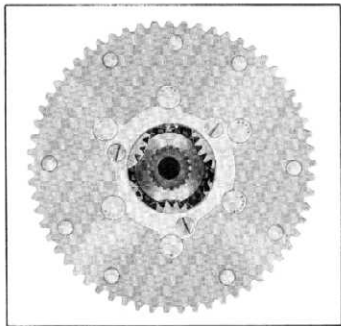

Fig. 112—Mark Each Pinion Shaft
2. Using prick punches or other similar means, mark each pinion shaft and also the planet carrier assembly (fig. 112), so that when reassembling, each pinion shaft will be reinstated in the same location from which it was removed.